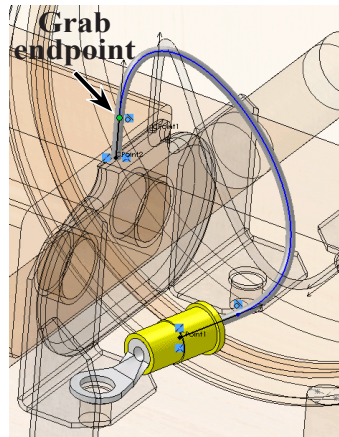

Fig. 10
Step 11. Grab the **top endpoint of Line at Battery Clip in the 3D Sketch**, **Fig. 10**.